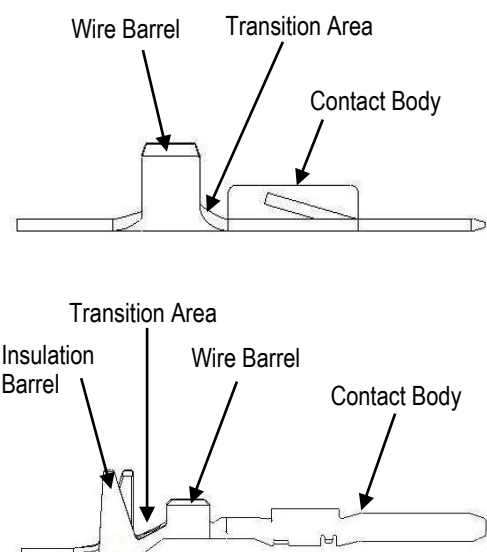

Figure 7
4. ADJUSTMENT PROCEDURE [FIGURE 7]
2. Move the Vertical Adjustment Plate and Horizontal Adjustment Block so the terminal strip can be inserted into the Strip Guide; positioning the contact barrel against the Strip Guide surface indicated (see Figure 7).
Some terminals do not have an Insulation Barrel – in that case, use the transition area between the Wire Barrel and the Contact Body to set up the tool (see Figure 7; Contact Details).